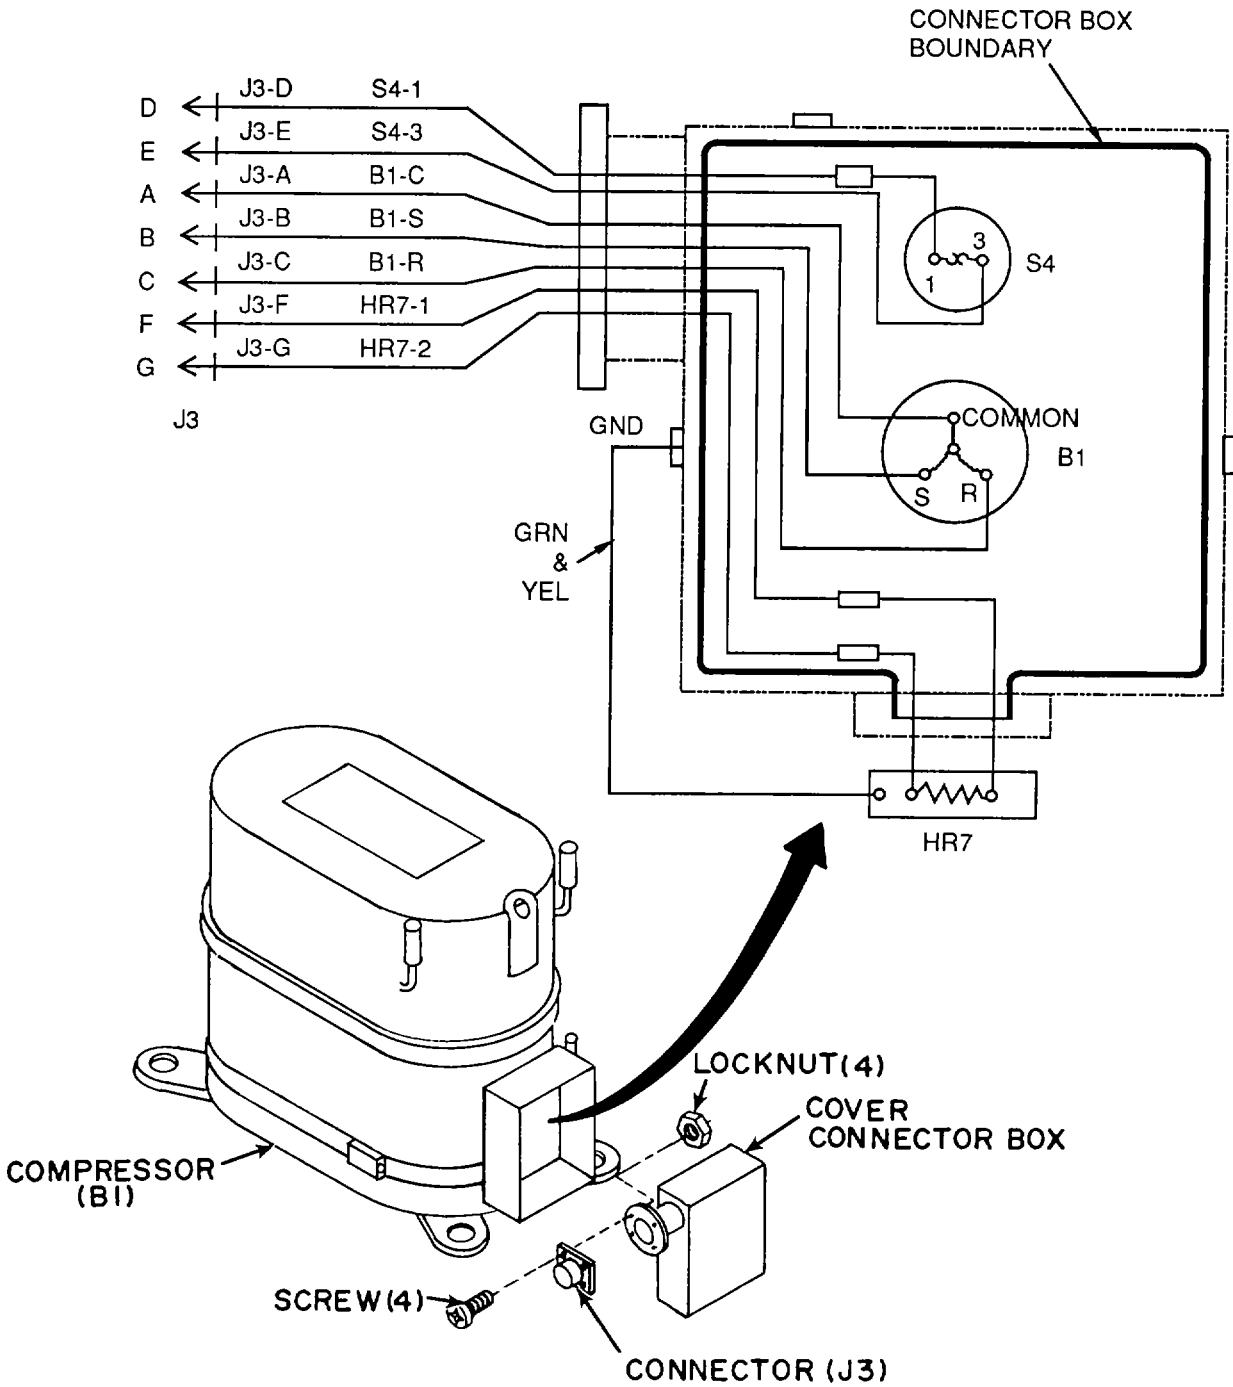

Figure 5-25. Compressor Harness
- (g) Using tags and wiring schematic (fig. 5-25.), crimp three compressor wire leads to new connector and harness. Remove the tags.
- (h) Using tags and wiring schematic (fig. 5-25.), connect four harness quick-disconnect terminals to compressor.